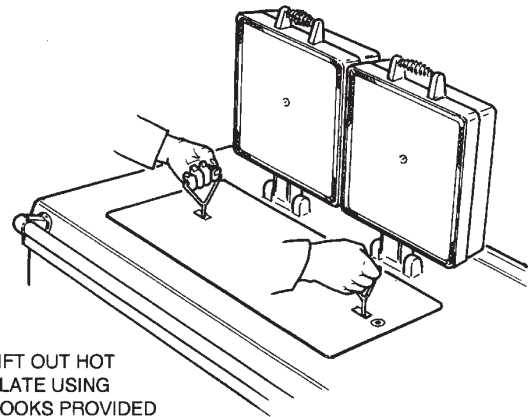

FIG. 7
SEE FIG 7 & 8
4. Lift up the insulating covers and remove the hotplate using lifting hooks provided (See Fig. 7).